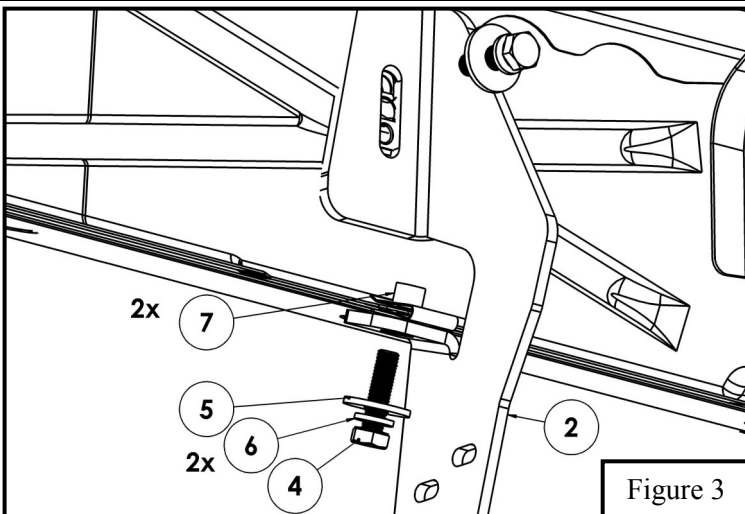

Figure 3
3. Insert (1) M8 U-Nut Clip (Item 7) into the hole where the rubber plug was removed. Clip (1) M8 U-Nut Clip onto pinch weld if no factory welded nut is present. Locate (1) Mounting Bracket A (Item 2) and loosely secure it to the rocker panel using the provided hardware: (2) M8 hex head bolt, (2) M8 flat washer, and (2) M8 lock washer. See **Figure 3**.